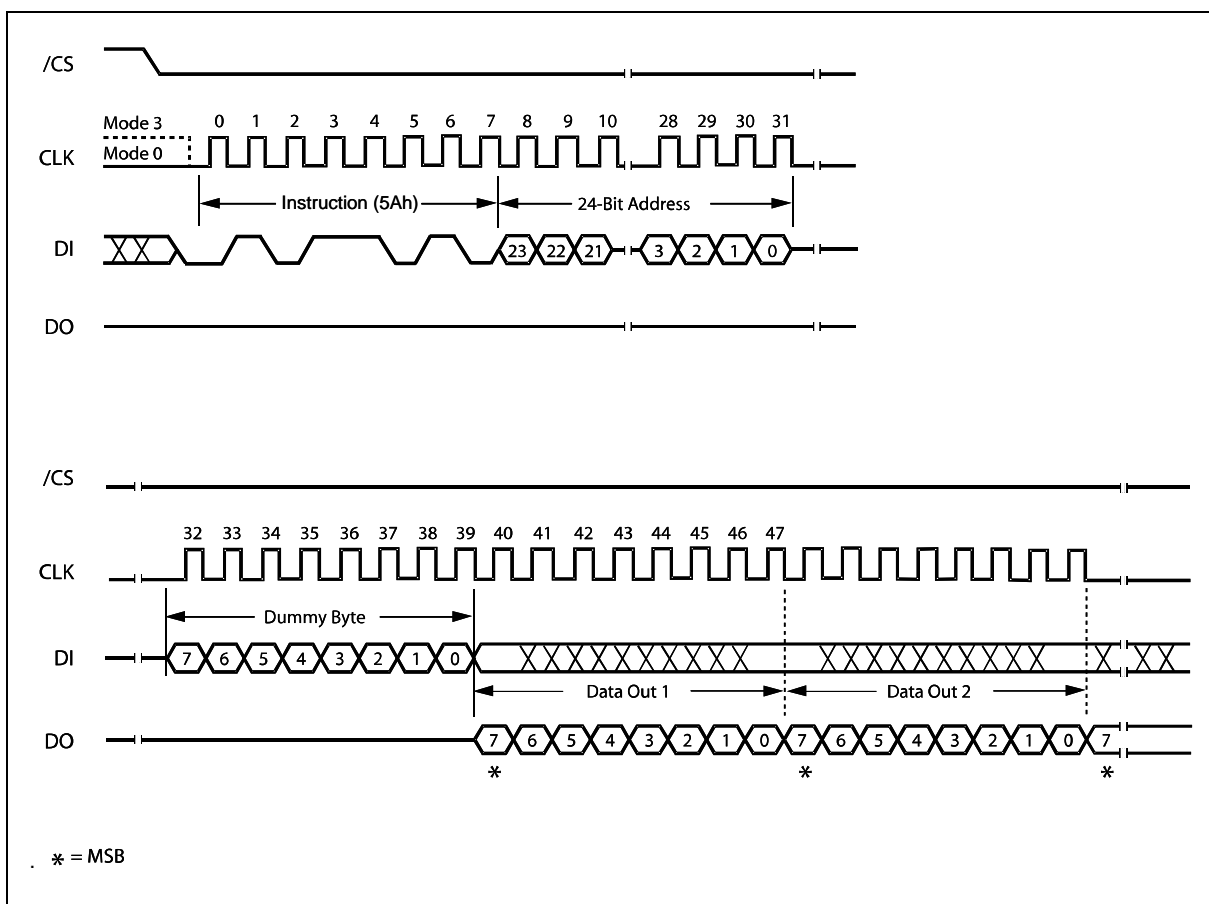

Figure 31b. Read SFDP Register Instruction Sequence Diagram
The Read SFDP instruction is initiated by driving the /CS pin low and shifting the instruction code “5Ah” followed by a 24-bit address (A23-A0)(1) into the DI pin. Eight “dummy” clocks are also required before the SFDP register contents are shifted out on the falling edge of the 40th CLK with most significant bit (MSB) first as shown in figure 31b. For SFDP register values and descriptions, please refer to the Winbond Application Note for SFDP Definition Table,